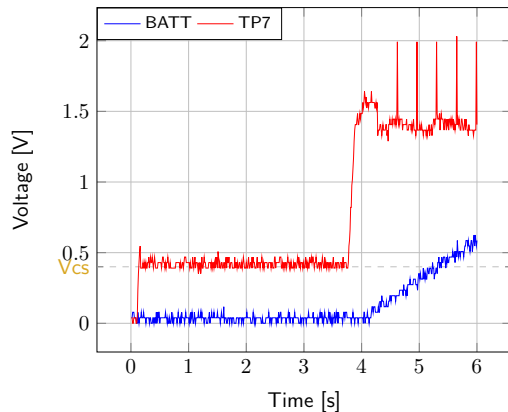

Figure 6: AEM40940 behaviour during cold start
- **TP7**: Equal to the cold-start voltage during the cold-start phase. Regulated at the selected MPPT percentage of V_{oc} when cold start is over (see Figure 6). Be careful that the cold-start phase time will shorten with the input power. Limit it to ease the observation.
- **BATT**: Starts to charge when the cold-start phase is over (see Figure 6).